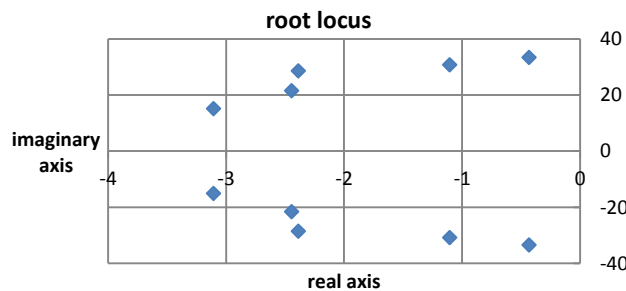

Figure 4: Experimental Root Locus
6. Recall that the closed-loop poles of the system are given by $-\sigma_d \pm j\omega_d = -\zeta\omega_n \pm j\omega_d$. Create a plot of the root locus of the experimentally determined closed loop poles as a function of controller gain (see Figure 4). This plot should be included in your lab memo submission.